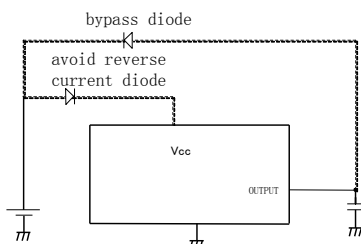

Figure 30. Example of insert diode
## (9) In the application, when the mode where the VIN and each pin electrical potential becomes reversed exists, there is a possibility that the internal circuit will become damaged. For example, during cases wherein the condition when charge was given in the external capacitor, and the VIN was shorted to GND, it is recommended to insert the bypass diode to the diode of the back current prevention in the VIN series or the middle of each Pin-VIN (fig.30).